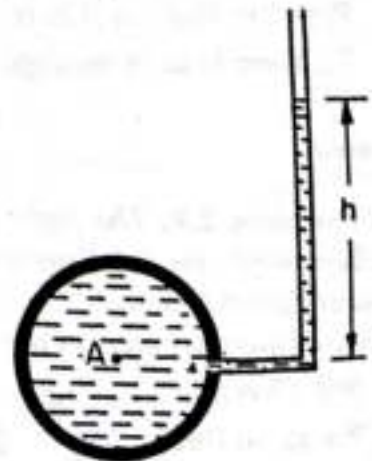

Fig. 2.8. Piezometer.
**2.6.1. Piezometer.** It is the simplest form of manometer used for measuring gauge pressures. One end of this manometer is connected to the point where pressure is to be measured and other end is open to the atmosphere as shown in Fig. 2.8. The rise of liquid gives the pressure head at that point. If at a point A, the height of liquid say water is  $h$  in piezometer tube, then pressure at A